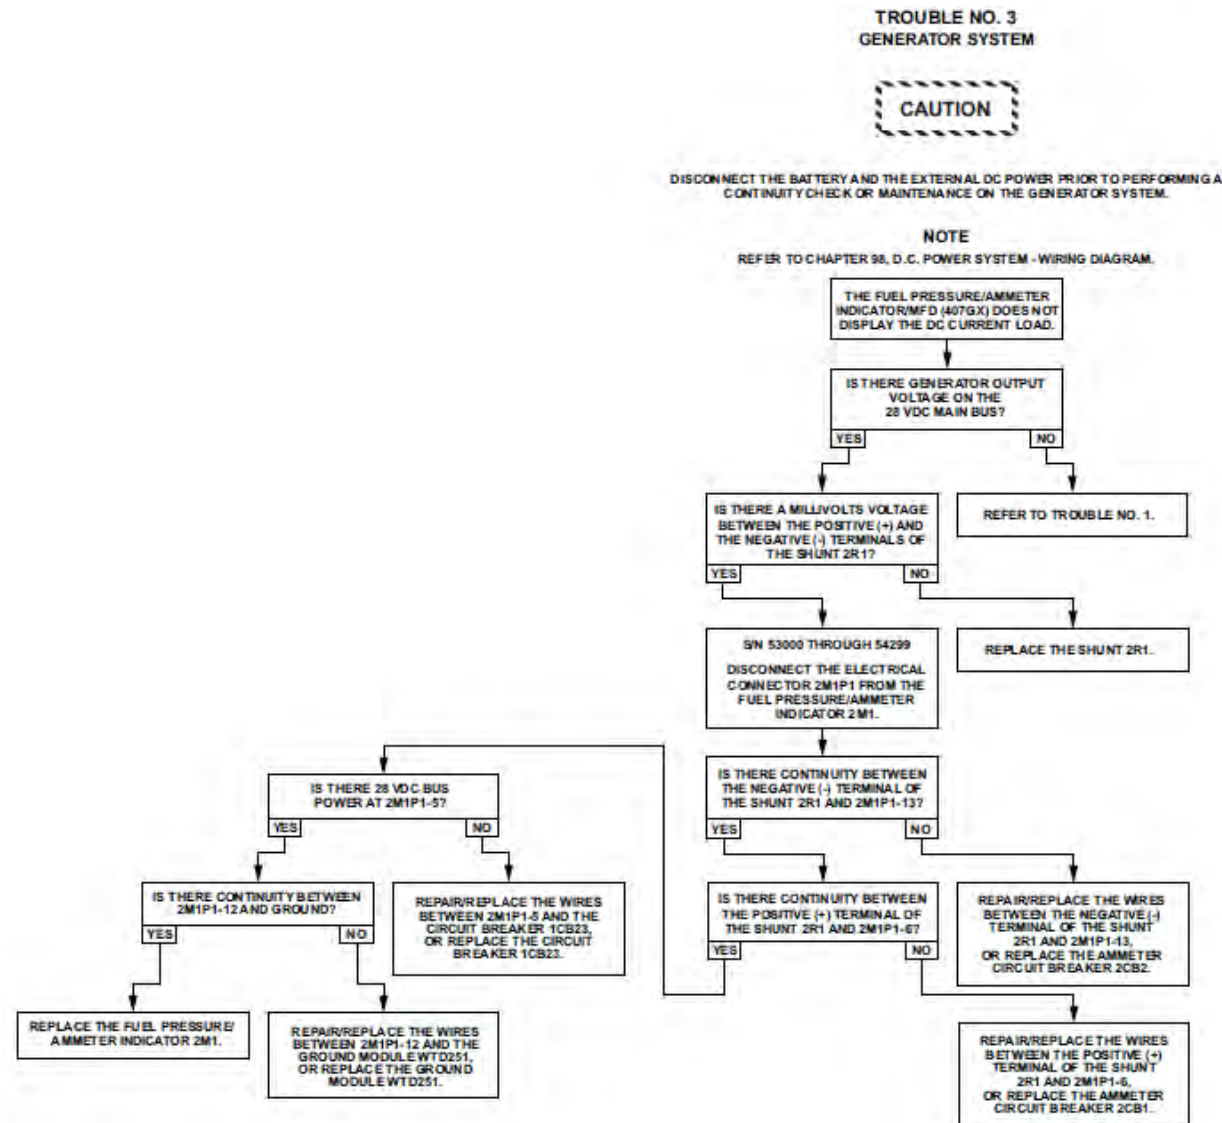

Figure 96-37: Generator System - Trouble No. 3
- If the fuel pressure/ammeter indicator (2M1) does not show an indication, reset the circuit breakers (2CB1 and 2CB2). If the fuel pressure/ammeter indicator does not show an indication, refer to Trouble No. 3 (Figure 96-37).